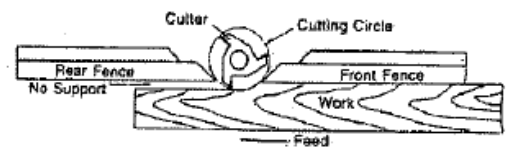

Fig. 9
- When the shaping operation removes the entire edge of the work (ie jointing or making a full bead), the shaped edge will not be supported by the rear fence when both fences are in line, as shown in Fig. 9. In this case, the workpiece should be advanced to the position shown in Fig. 9 and stopped.